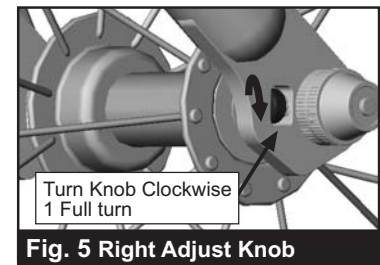

**Fig. 4. Adjust Knobs**
7) Fine tune tracking of stroller is accomplished by using the adjustment knobs shown in Fig. 4.